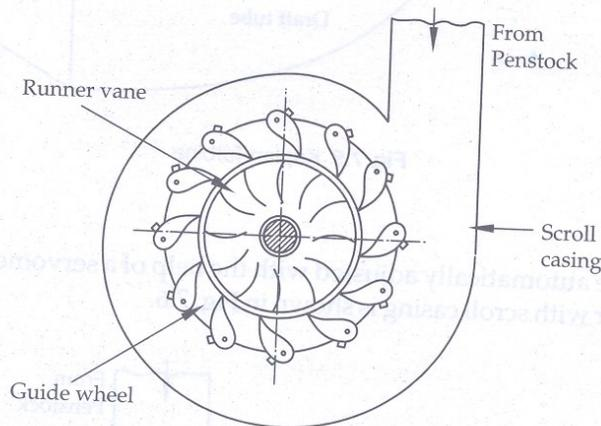

Fig. 7.4 Runner with scroll casing
(5) **Runner:** The runner of Francis turbine is a circular wheel on which a series of radial curved vanes are fixed. The radial curved vanes are so shaped that the water enters and leaves the runner without shock. The number of runner blades varies between 16 to 24. The runner is keyed to the shaft. A runner with the scroll casing is shown in Fig. 7.4.